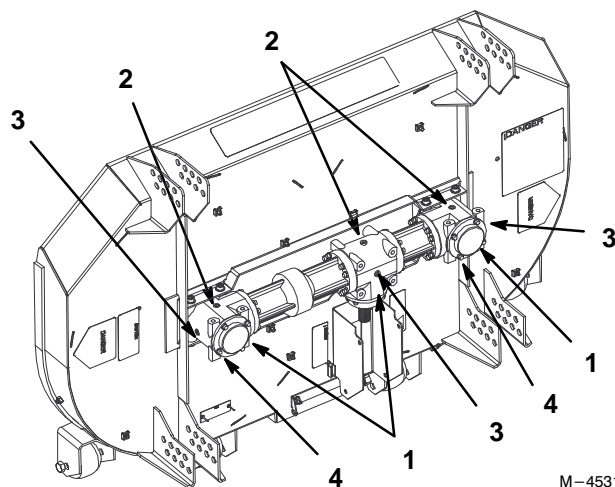

Figure 32
4. With deck raised, remove plug on the bottom side of the gearbox. Let fluid fully drain into a pan. (Fig. 32).
5. Reinstall the bottom plug into the gearbox (Fig. 32).
6. Remove the top plug to fill gearbox (Fig. 32).
8. Reinstall the top plug into the gearbox (Fig. 32).
3. Remove plug on the side of the gearbox. The fluid level must be up to side hole in gearbox (Fig. 32).
4. If needed, fill automatic transmission fluid (Dexron® III or equivalent) into top hole until it runs out the side hole in gearbox. It is full when it runs out the side hole (Fig. 32).
5. Reinstall the top and side plugs into gearbox using pipe sealant (Fig. 32).